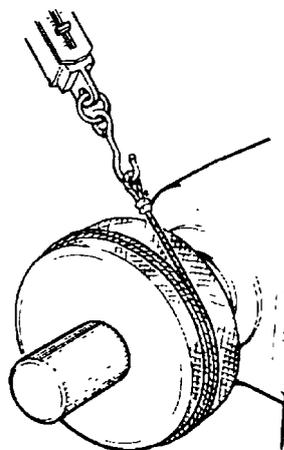

Figure 273 Measuring the Worm Shaft Pre-load
- e. Install the torque set tool (Table 3, Serial 70) onto the worm shaft splines (Figure 273), coil string around the tool and attach a spring balance to the free end of the string.